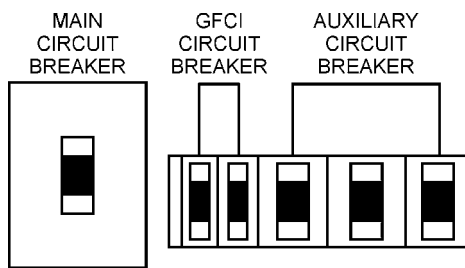

Figure 35. Main, Aux. and GFCI Circuit Breakers (OFF)
1. Place the **main, G.F.C.I., and aux.** circuit breakers (Figure 35) in the **OFF** position prior to starting the engine.
1. Place both the **MAIN, GFCI and LOAD** circuit breakers as shown in Figure 35 to the **OFF** position.